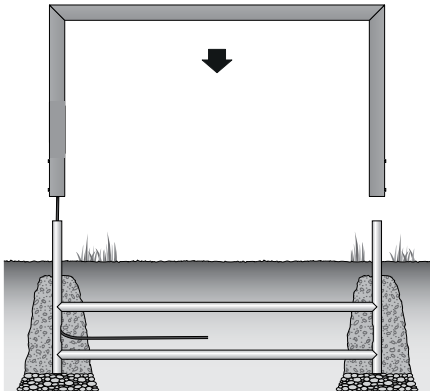

Figure 1
4. Loosen (4) M8 set screws at the base of the fixture and place the fixture over the anchorage base, shown in Figure 1. Tighten (4) M8 set screws to make sure the fixture is in place and secure.